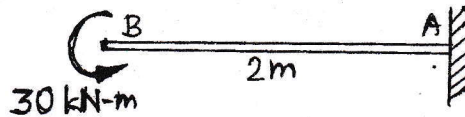

Fig. 8
Q.8) a) Obtain slope and deflection (in terms of 'EI') at the free end of a cantilever carrying a couple as shown in Fig. 8. [6]